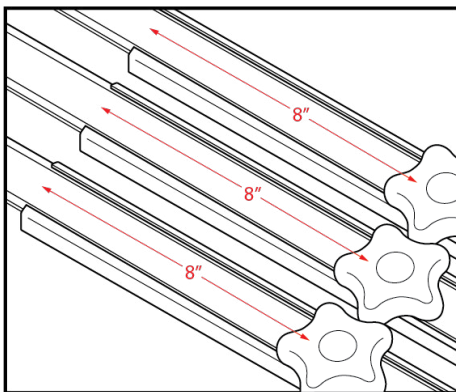

Fig.28
2. Line up the remaining Awnbrella arms and adjust them as done in step 1. (Fig.28). Adjusting the arms now will make it easier to properly insert them later.